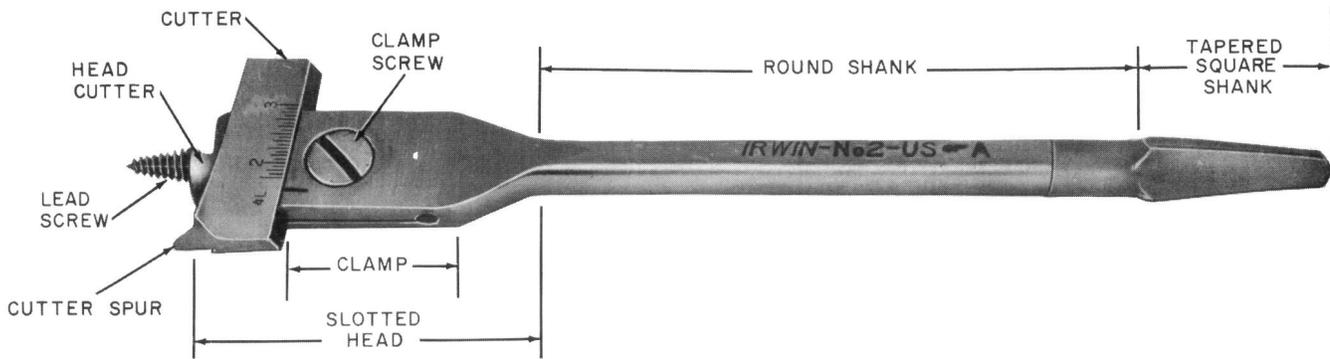

Fig. 4 — Expansive Bit
**2.11** The expansive bit (Fig. 4) consists of a tapered square shank and round shank terminating in a slotted head having a lead screw,